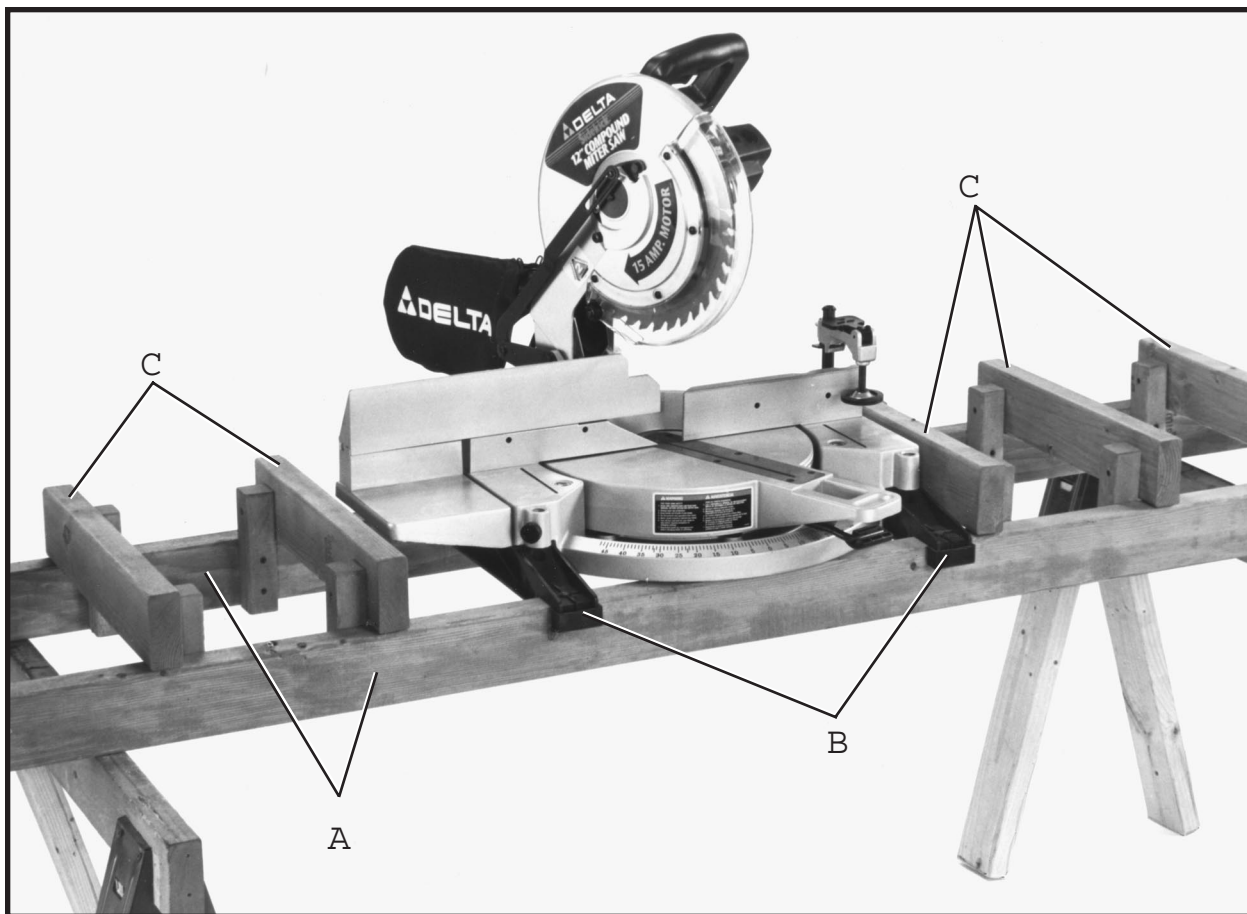

Fig. 48
One of the unique features of your miter saw is the ease with which you can construct work supports. Fig. 48, illustrates the miter saw mounted to two standard 2 x 4 s (A). Fasten the grooves in the two mounting legs (B), to the 2 x 4 s using four screws through the four holes in the mounting legs. The length of the 2 x 4 s (A) can vary depending on your preference. The distance from the top of the 2 x 4 s (A) to the compound miter saw table is 3-5/8 inches. This enables you to fasten standard 2 x 4 s (C) to the top of the 2 x 4 s (A), as shown. The top of the 2 x 4 s (C) will then be the same height as the miter saw table; or minor adjustments can easily be made depending on the height of your 2 x 4 s. This method allows you to provide support for long workpieces using standard 2 x 4 s instead of constructing an expensive, complicated work support.